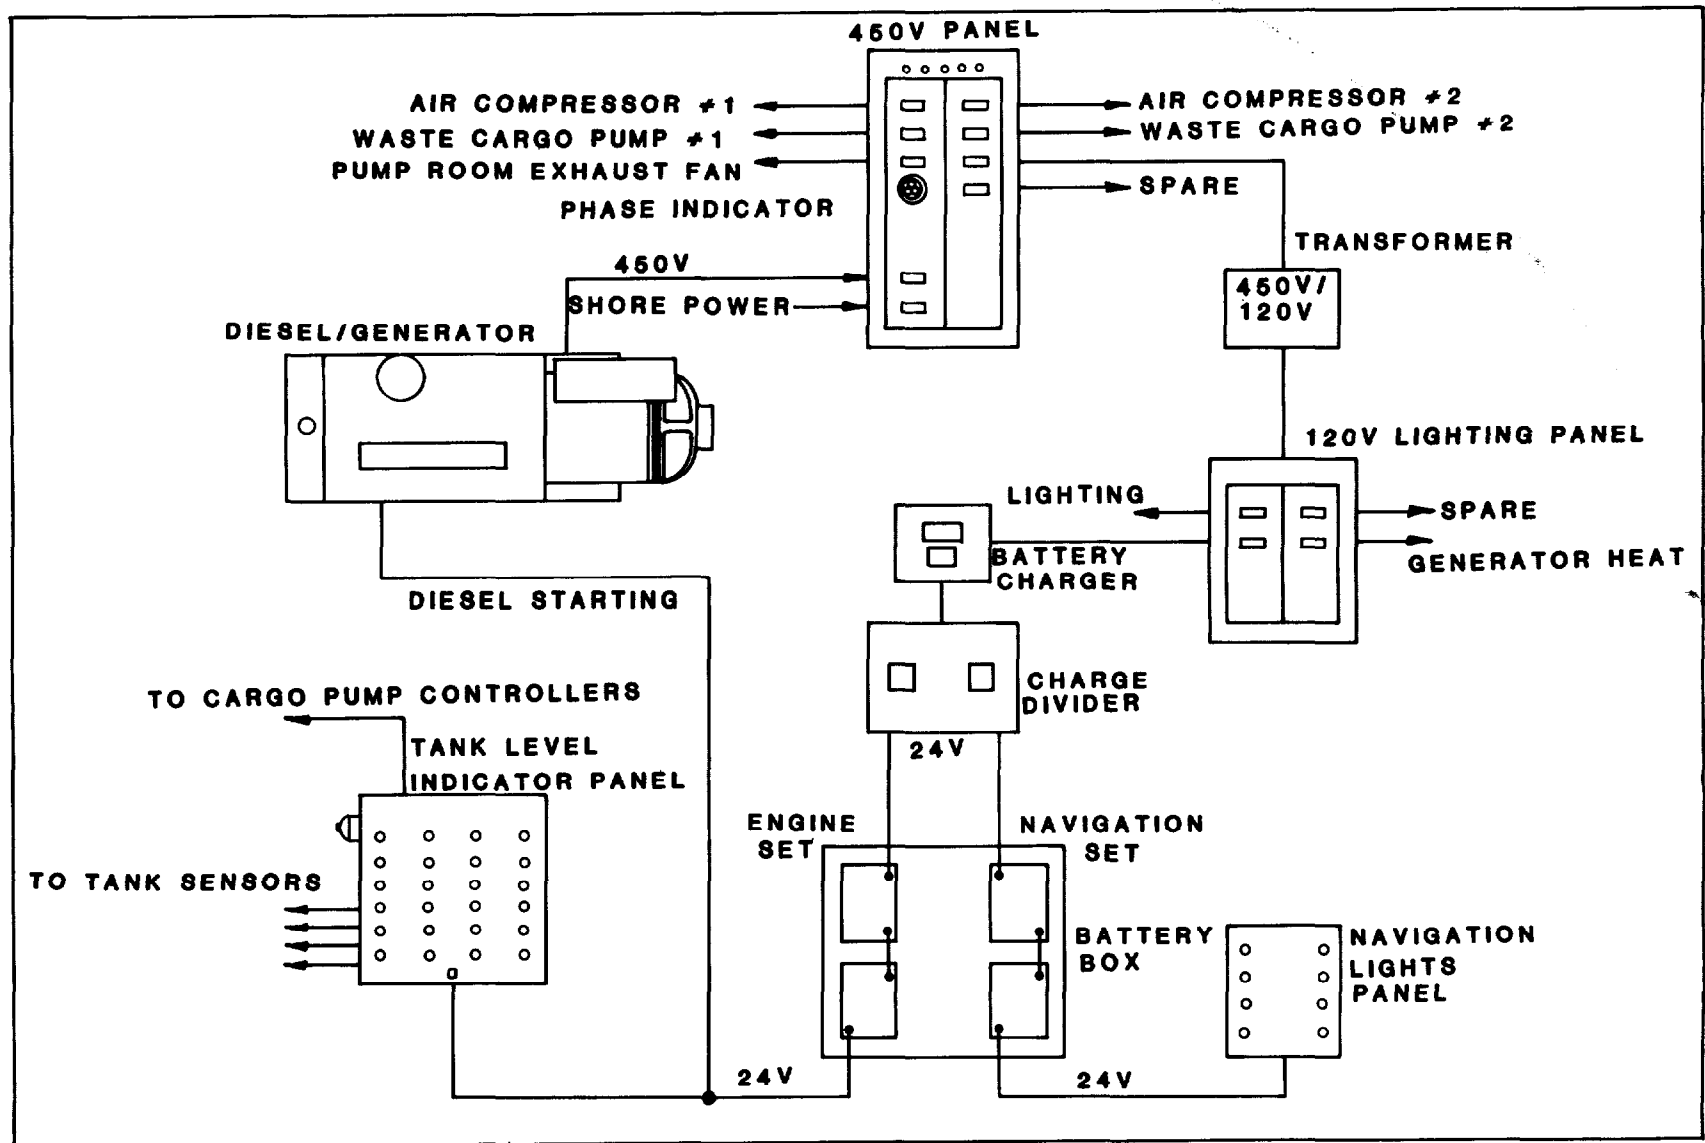
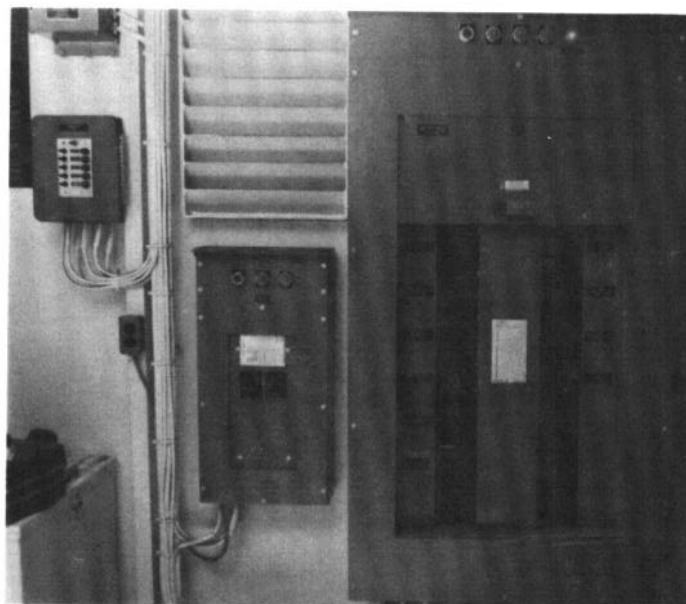

FIGURE 2-5
FIGURE 2-6a
2.2.1 POWER DISTRIBUTION. The power system is arranged as shown in Figure 2-5. There are three electric power systems; diesel generator power, shore power, and 24v storage batteries. The main 450 volt power panel, shown in Figure 2-6a, provides the breaker switches for selecting shore or generator power and for the distribution circuits. The maximum main panel capacity is 100 amps for shore power and 125 amps for generator power limited by breaker switches. The panel has a shore power indicator lamp, a shore power phase sequence indicator, and ground fault indicator lights (see Figure 6b). A 450v/120v AC transformer is located to the left of the main panel with the 120v lighting panel mounted below.